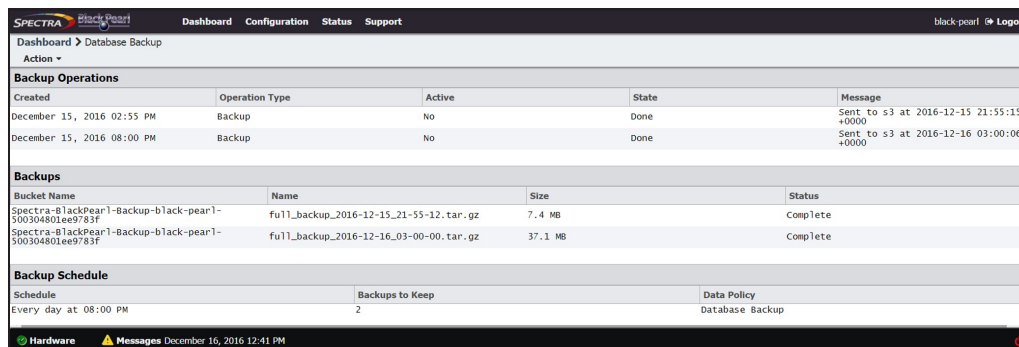

Figure 195 The Database Backup screen.
1. From the menu bar, select **Configuration > Database Backup**. The Database Backup screen displays (see Figure 195 on page 271).